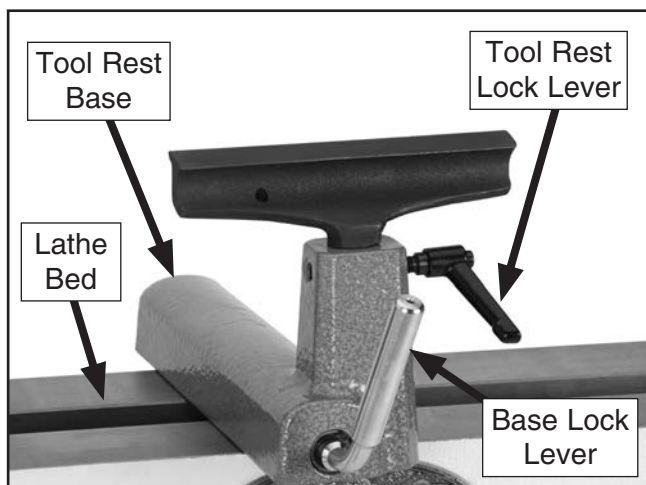

Figure 23. Typical tool rest controls to adjust position and height.
1. Disengage base lock lever and slide tool rest base along bed (see **Figure 23**).